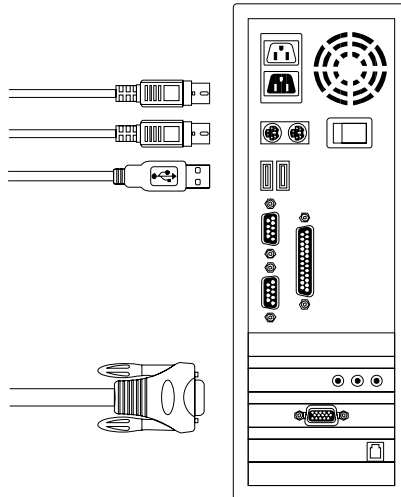

Figure 3: USB & PS/2 (Keyboard & Mouse) and VGA connected
- A. Connect **USB, PS/2 (keyboard/mouse)** and **VGA** connectors to computers. We recommend users to connect computers in this way. (Figure 3)
- B. Use the custom combo cable set (**See Figure 1**), to connect one or more Slave KVM Switches to any PC port of Master KVM Switch. **The connection between KVM to KVM must be connected through PS/2 connection. ( Please refer to Figure 2 & Figure 3 ).**